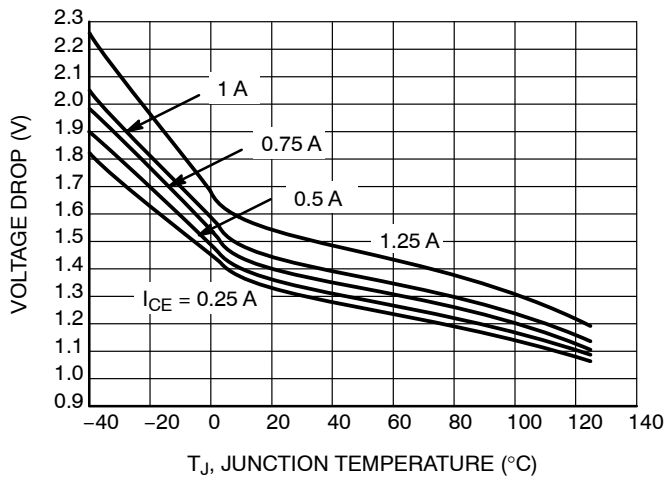

**Figure 7. Emitter Follower Configuration Output Darlington Switch Voltage Drop vs. Temperature**
8.  $V_{SWCE}$  – Darlingon Switch Collector to Emitter Voltage Drop, refer to Figures 7, 5, 8 and 9.